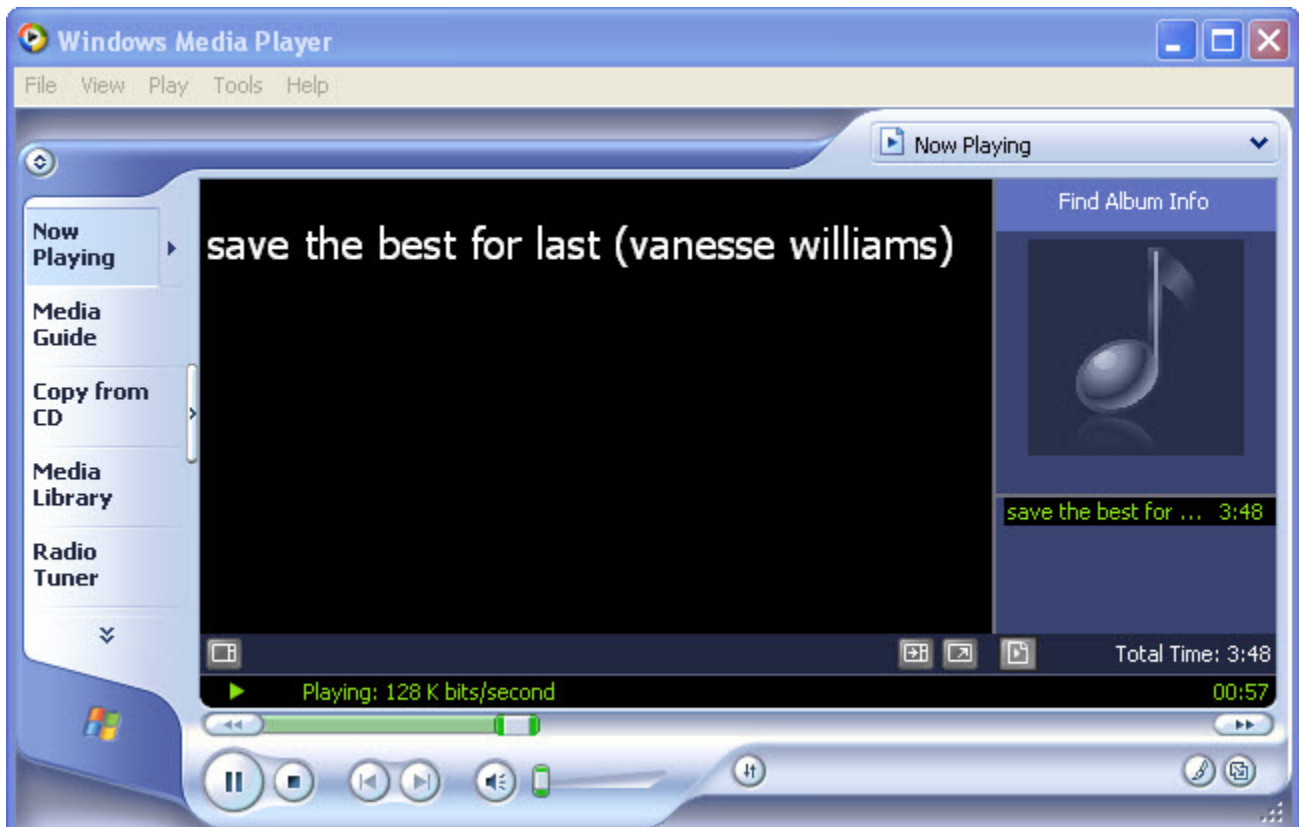

Figure G-13. Window Media Player
- f) Open the Windows Media Player application Figure G-13 and then select and listen to your favorite audio; you can hear the song clearly.